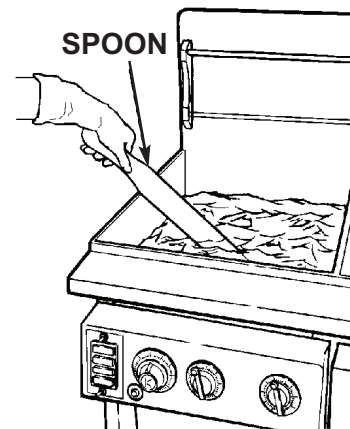

FIGURE 5. STIR WITH SPOON PROVIDED TO REMOVE WATER
3. Use spoon provided to stir oil. Bubbling will occur until all water is removed. Refer to Figure 5.